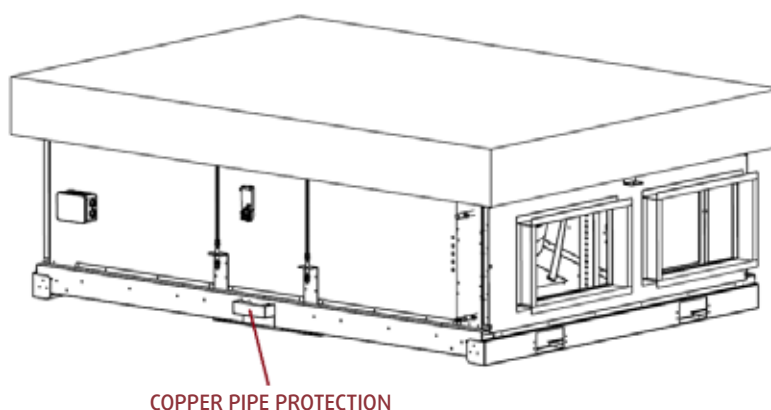

Figure 5.1-4 - Copper Pipe Protection Sheet
- After the ceiling mounting of the SysReco device has been completed, please remove the copper pipe protection sheet indicated in Figure 5.1.4.